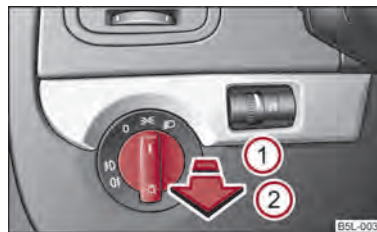

Fig. 26 Dash panel: Light switch
- First of all turn the light switch into position \Rightarrow or \Leftarrow \Rightarrow fig. 26.
- Pull the light switch into position ①. ▶
- First of all turn the light switch into position  or  ⇒ fig. 26.